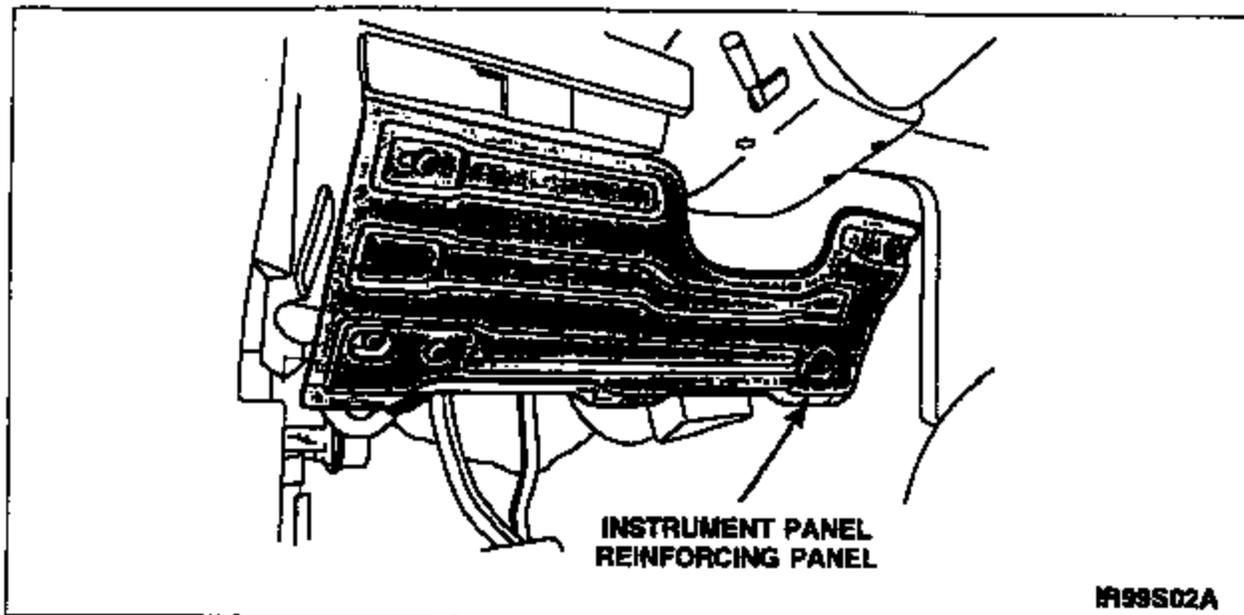

FIGURE 1
3. Remove the instrument panel reinforcing panel. See Figure 1.